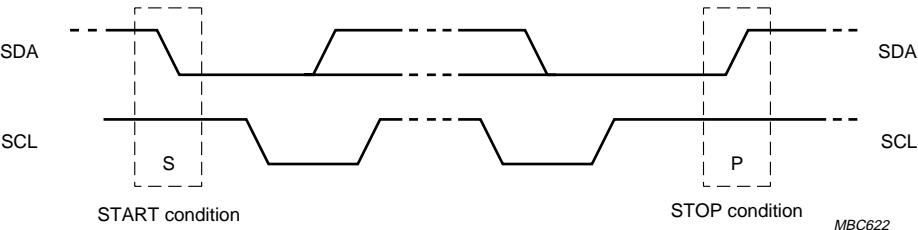

Fig.13 Definition of START and STOP conditions.
7.2 START and STOP conditions (see Fig.13)